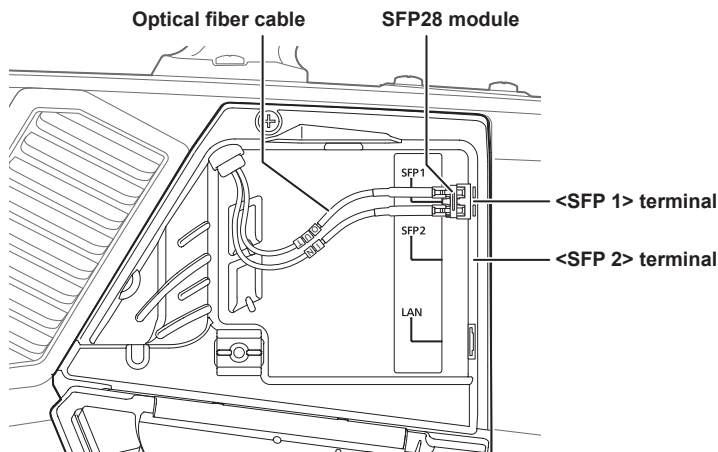

Fig. 1
- 2 Disconnect the optical fiber cables of the SFP28 module inserted in the <SFP 1> terminal as shown in figure 1.